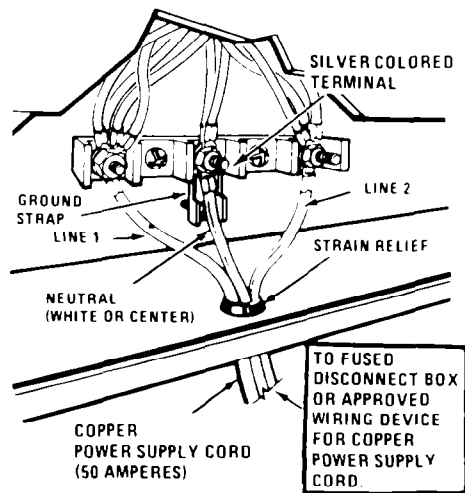

FIGURE 4
C. Connect the neutral wire of the copper power supply cord to the center silver colored terminal of the terminal block and connect the other wires to the outer terminals. See Figure 4.